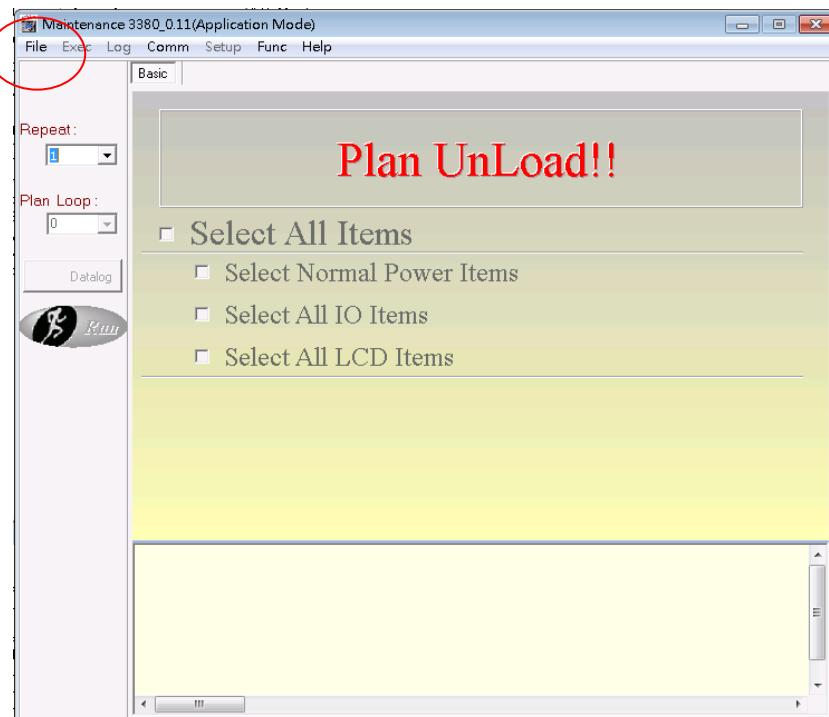

Figure 3-2 Calibration Program Icon in Maintenance
- (2) Click the calibration icon in CRAFT to activate the calibration user interface (see *Figure 3-2*).